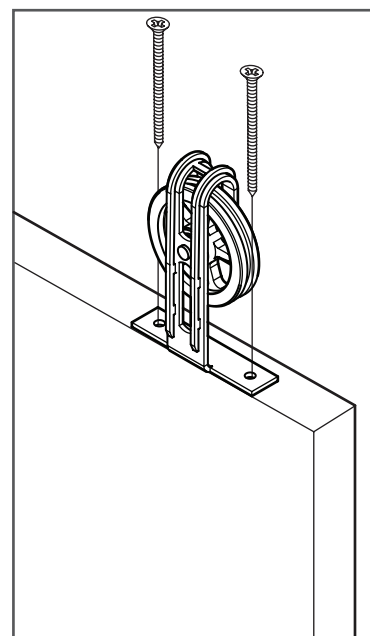

Figure 3
5. Attach the hanger to the door using two fastener screws (provided). Repeat the process on the opposite end of the door (Figure 3).